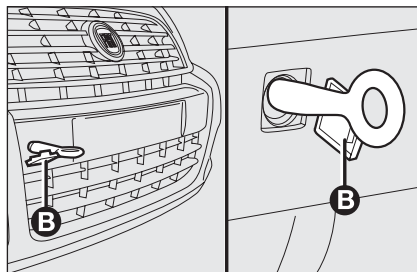

fig. 27
- ☐ take away the front or rear door **B-fig. 27** using the supplied screwdriver;